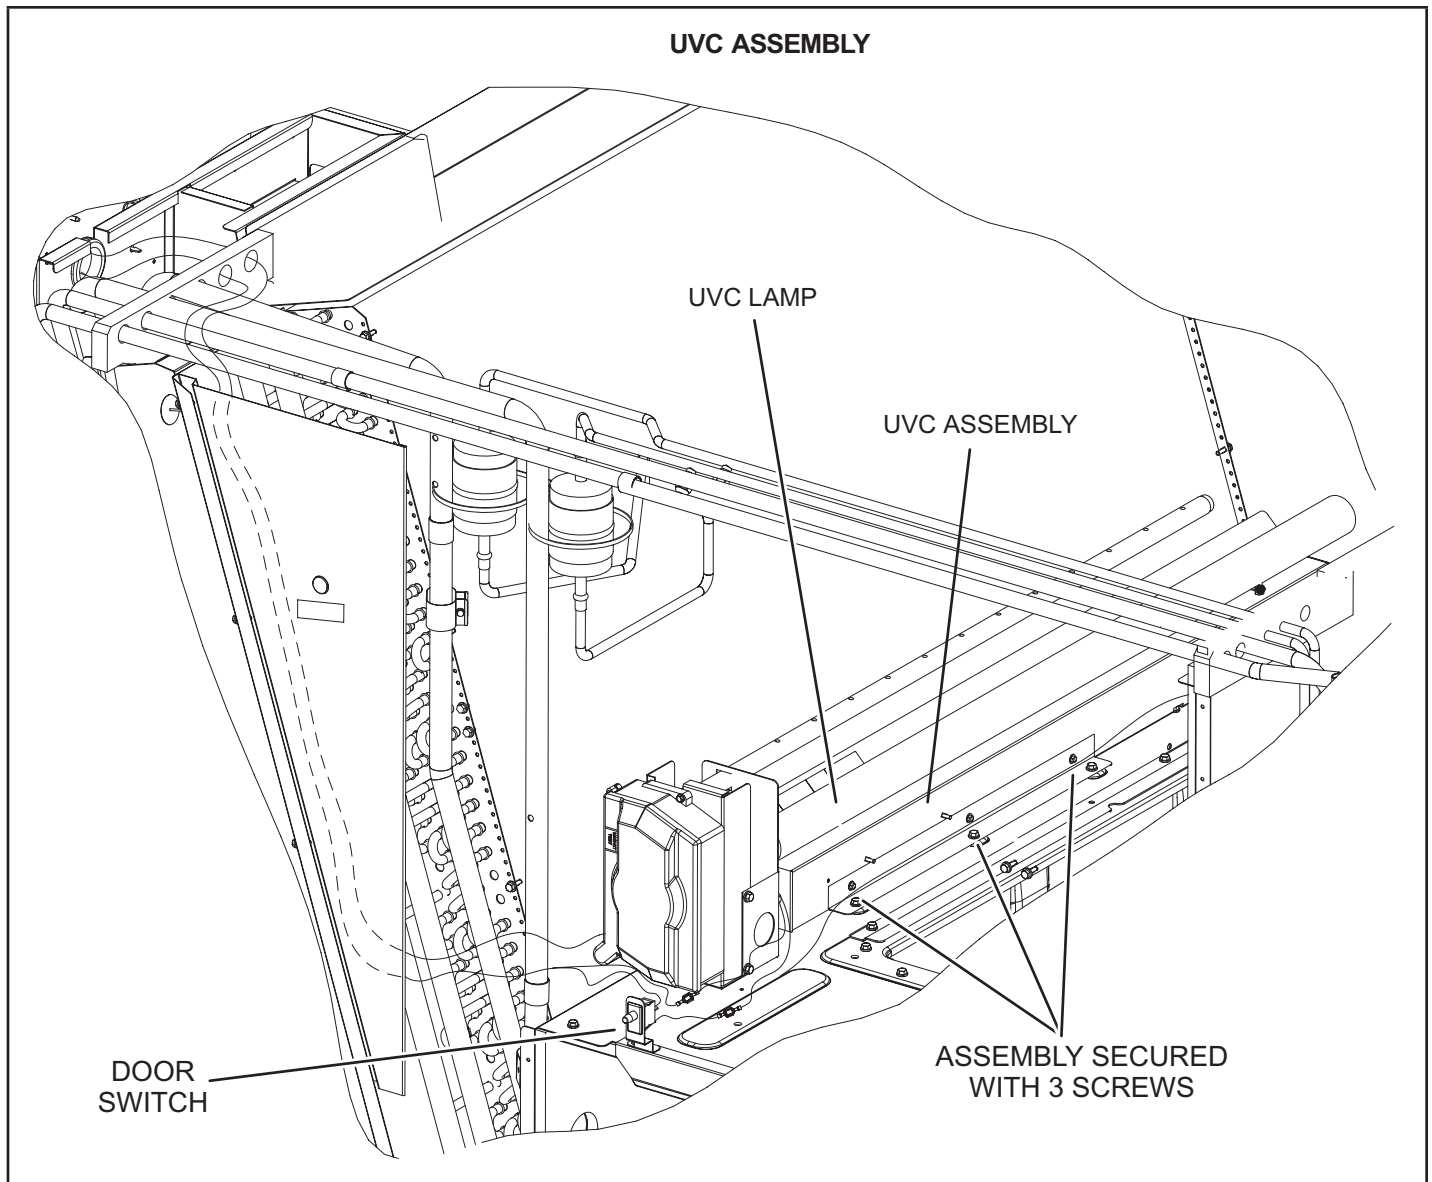

FIGURE 35
When the UVC light is factory installed, the lamp is shipped in a foam sleeve. The lamp is attached to the UVC light assembly on the blower deck. See FIGURE 35. Remove the lamp and install into the UVC light assembly as shown in steps 2 through 11.
- 5 - Remove and retain the (3) screws securing the UVC assembly. Carefully slide the complete UVC assembly out through the blower access door. See FIGURE 35.
- 8 - Carefully place the UVC assembly on the blower deck. Line up the mounting holes on the UVC assembly with the mounting holes on the blower deck. See FIGURE 35. Use the retained screws provided to attach the UVC assembly in place.